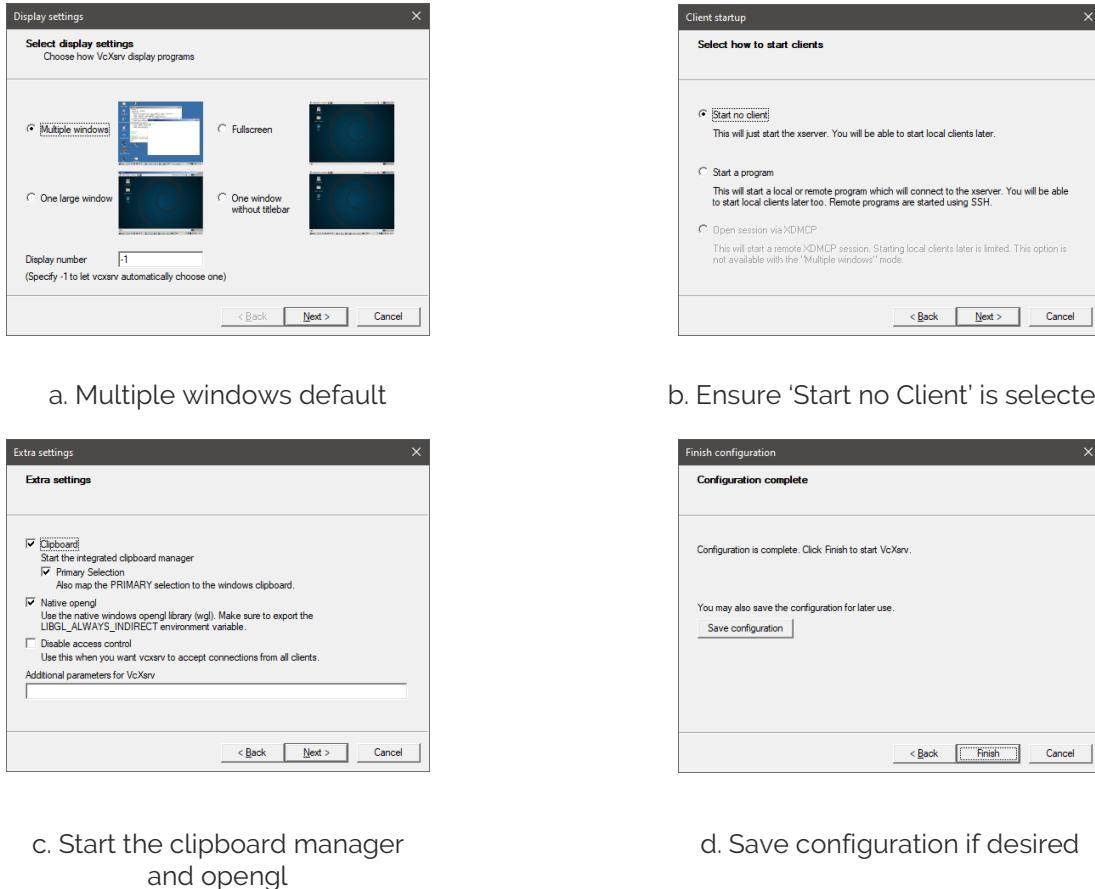

Figure 6. XLaunch to start a display server on the GCS
2. Pass through all four tabs with default options or set up your own configuration as in Figure 6 (as long as the 'start no client' option is selected as in Figure 6b) and click Finish.